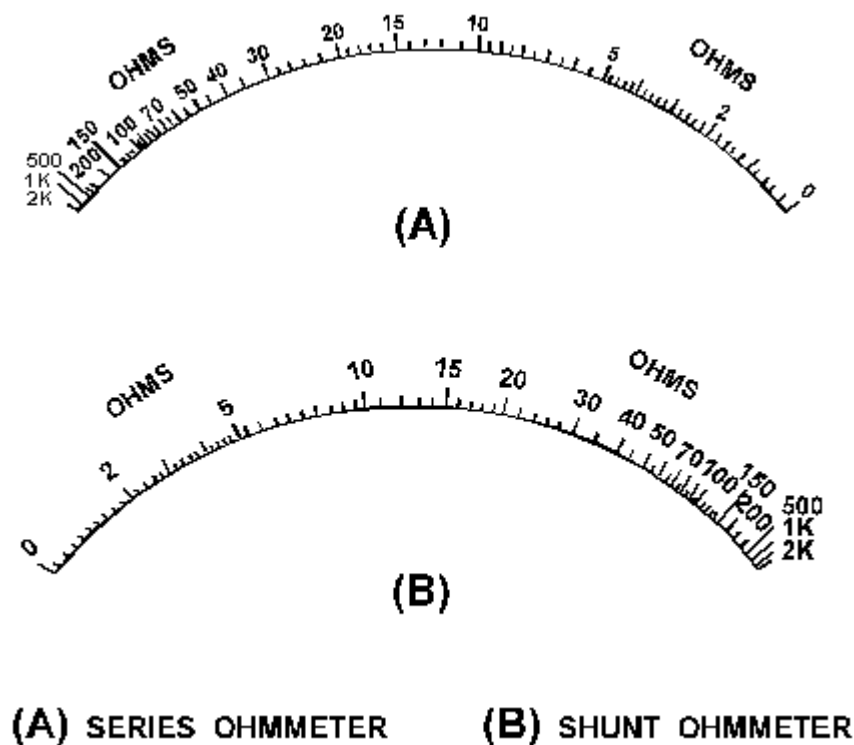
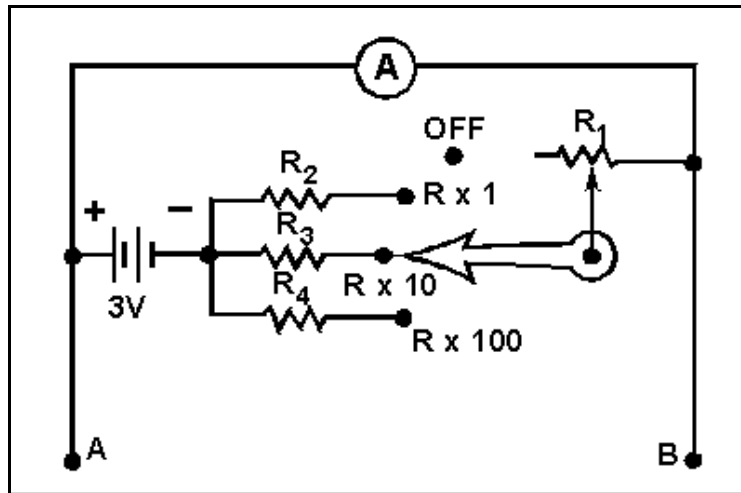

Figure 1-34.—Series and shunt ohmmeter scales.
Figure 1-35.—A shunt ohmmeter with internal range resistors.
The ohmmeter described to this point is known as a series ohmmeter, because the resistance to be measured is in series with the internal resistors and the meter movement of the ohmmeter. Another type of ohmmeter is the **SHUNT OHMMETER**. In the shunt ohmmeter, the resistance to be measured shunts (is in parallel with) the meter movement of the ohmmeter. The most obvious way to tell the difference between the series and shunt ohmmeters is by the scale of the meter. Figure 1-34 shows the scale of a series ohmmeter and the scale of a shunt ohmmeter.
Figure 1-34(A) is the scale of a series ohmmeter. Notice "0" is on the right and " ∞ " is on the left. Figure 1-34(B) is the scale of a shunt ohmmeter. In the shunt ohmmeter " ∞ " is on the right and "0" is on the left. A shunt ohmmeter circuit is shown in figure 1-35.
In figure 1-35, R_1 is a rheostat used to adjust the ∞ reading of the meter (full-scale deflection). R_2 , R_3 , and R_4 are used to provide the $R \times 1$, $R \times 10$, and $R \times 100$ ranges. Points A and B represent the meter leads. With no resistance connected between points A and B the meter has full-scale current and indicates